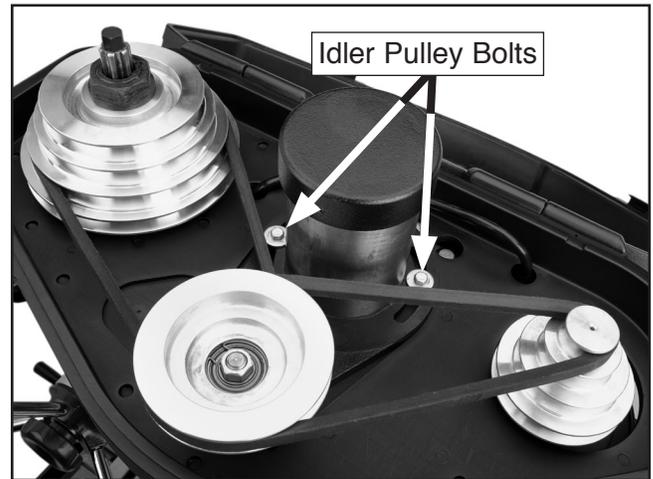

Figure 29. Pulley system.
2. Loosen the two idler pulley bolts that hold the center pulley system in place, so the pulley will float (**Figure 29**).